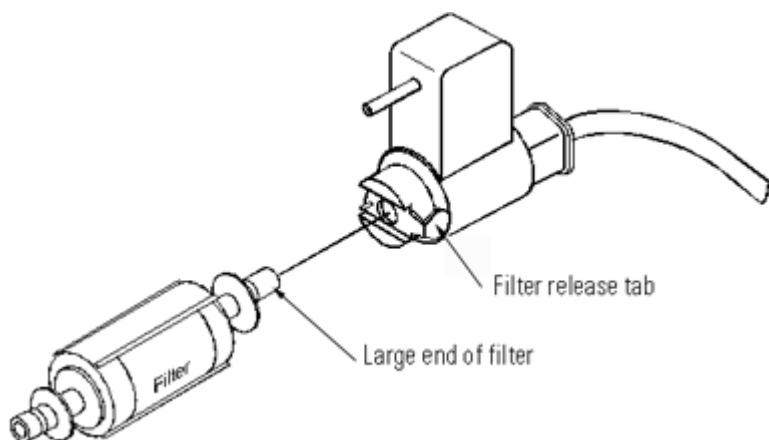

Figure 2. Inserting the Air Filter
1. **Insert the filter into the end of the flexible air hose.** Press the metal filter release tab at the end of the hose until it locks into place. Insert the large end of the filter into the opening until it is firmly seated. See Figure 2. Inserting the Air Filter.